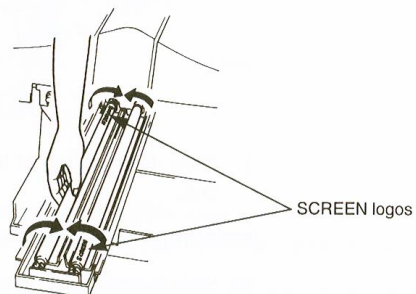

Fig. 3-12
- ⑨ Hold the first lamp so that the SCREEN logo is away from you and visible, and insert it into the sockets on the left side of the reflective lamp unit.
- ⑩ Turn the lamp to the right (as shown in Fig. 3-12) until it locks into place with the SCREEN logo facing the middle of the reflective lamp unit.
- ⑪ Hold the other lamp so that the SCREEN logo is near you and visible, and insert it into the sockets on the right side of the reflective lamp unit.
- ⑫ Turn the lamp to the left (as shown in Fig. 3-12) until it locks in place with the SCREEN logo facing the middle of the reflective lamp unit. Make sure that the logos on both lamps are facing each other.